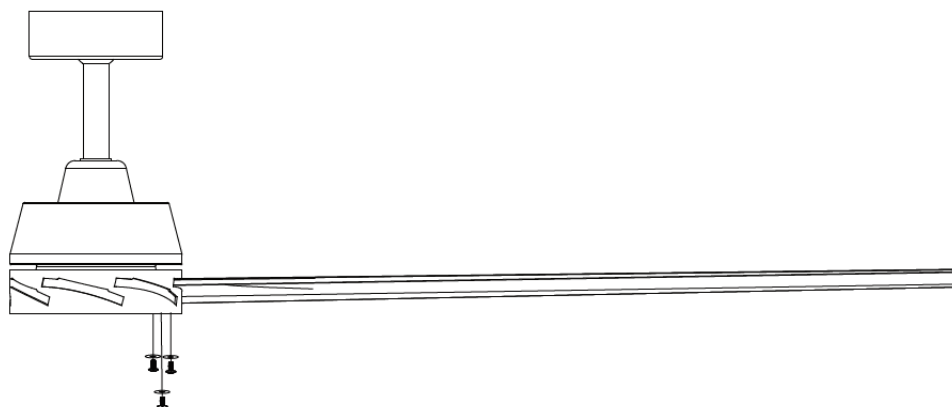

Fig. 4
**INSTALLATION DE LA PALE (Fig. 4)**